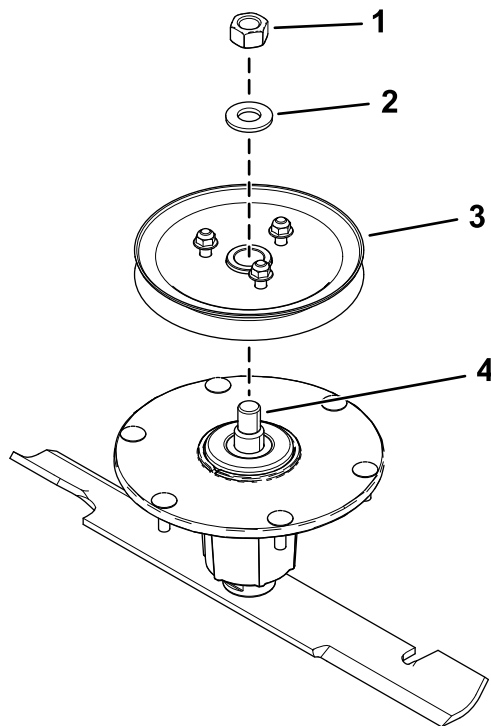

Figure 4
4. Install the sheave assembly to the spindle using the washer and top nut (Figure 4).